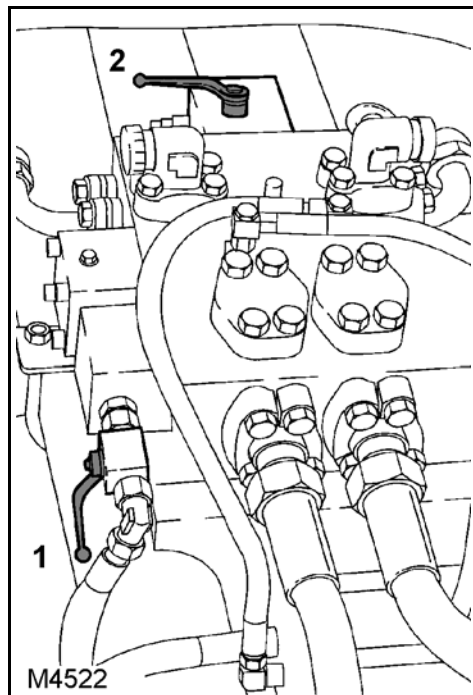
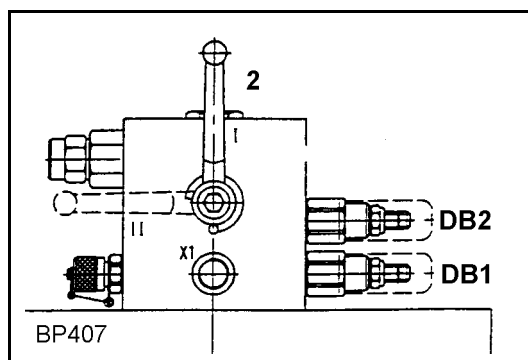

Fig. 214 Ball valves on pump kit control block
Fig. 215 In detail: Ball valve 2
3. The hydraulic oil becomes very hot because a large portion of the oil constantly flows through the pressure relief valve (PR2; 50 bar reduction (**Fig. 214**)).
- Close ball valve (1) (**Fig. 214**) (position “Pressure control”).
- Move ball valve (2) (**Fig. 214**) / (**Fig. 215**) into position (II) “Pressure control”.
- Leave the ball valve (2)(**Fig. 214**) in position (II) "Pressure control" and
- reopen the ball valve (1).